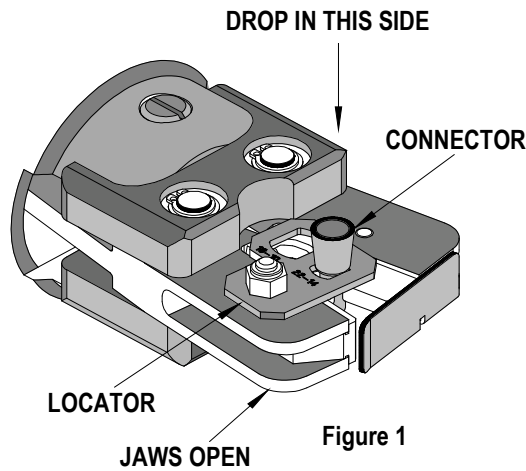

Figure 1
1. Hold Air Head crimp tool with the locator facing up. Insert the closed end connector in the correct slot (14 - 22 or 10 - 16). Make sure that the shoulder of the connector is resting on the locator plate. See Figure 1.